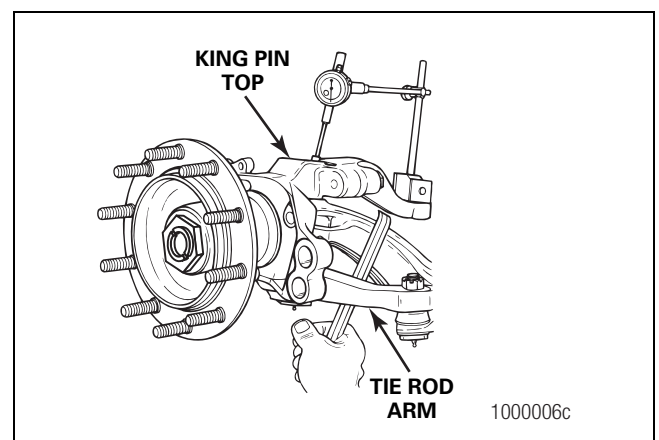

Figure 6.10
- Place a pry bar between the tie rod arm and the axle beam. Figure 6.10.